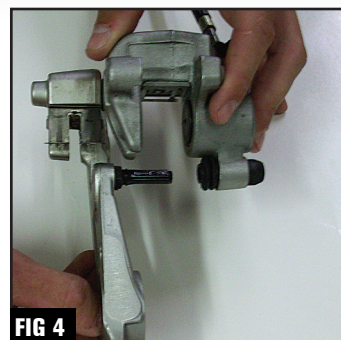

FIG 4
- 5** Slide caliper carrier (with caliper still mounted on it) off of the swing arm tab. Now remove caliper from carrier. (Fig 4)